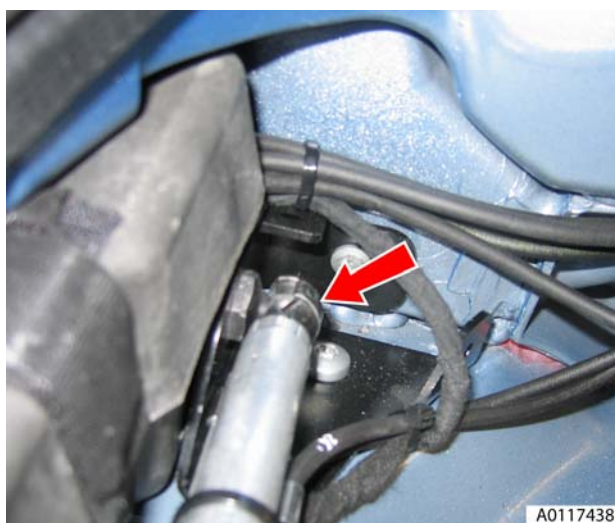

Figure 1
6. Release both tonneau cylinders lower retaining clips and disconnect cylinders from body (see Figure 1).